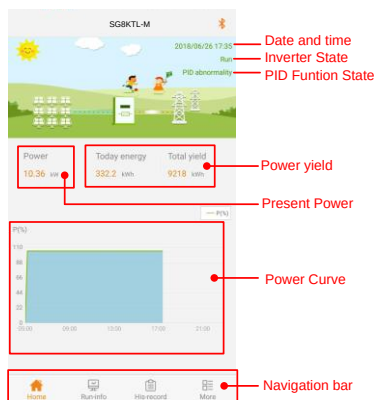

Fig. 10-5 Check the homepage info
Step 2 The homepage with the power, power yields, and real-time alarm info will appear as shown in Fig. 10-5.